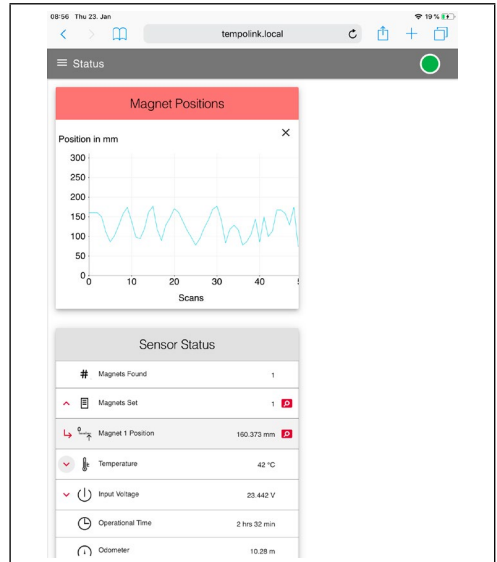

Fig. 14: Graphical display of position values
- **Magnets Set:** Number of set magnets. By clicking on the red arrow on the left the current position of the magnet is displayed. The magnifying glass on the right of the magnet provides a graphical display of the magnet's position. Note, that the output of the position values for the graphical display is slower than the output of the position values to the controller (Fig. 14).